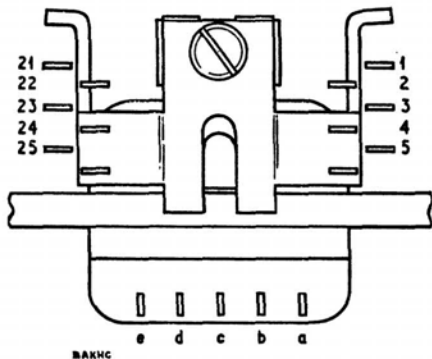

FIG. 5.—COIL TAG LETTERING VIEWED FROM REAR OF RELAY
6. Coil tag lettering. (See Fig. 5).—There are five tags designated a–e from right to left when the relay is viewed from the rear. *NOTE*:—This is the opposite way to that for 3000 type relay coil tags.